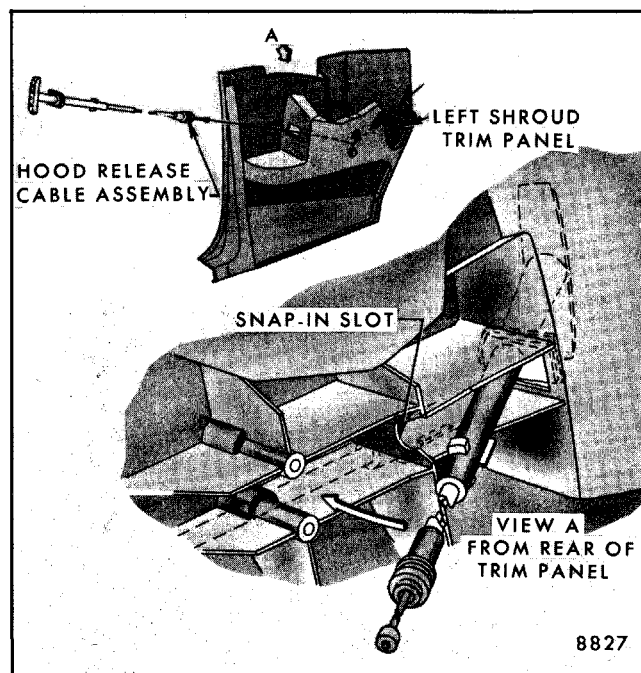

Fig. 4-23 - Hood Latch Release Cable - "K" Style
The one-piece hood latch release cable includes pull handle, control cable and housing. The control cable is installed through the left shroud side trim panel (Fig. 4-23). A sealing grommet attached to dash panel completes the assembly.
4. Disengage control assembly housing from snap-in slot of trim panel (Fig. 4-23 and 4-22) and remove cable assembly from panel pulling toward pull handle end.